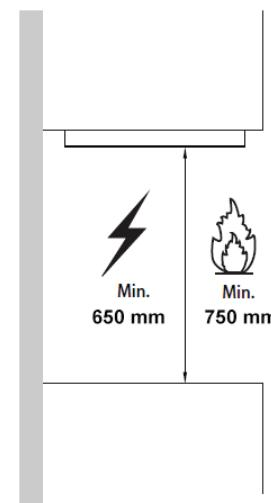

Fig. 3
2. Mark the required installation height (500 mm for electric and 500 mm for gas cooking plates) on the wall behind the cooker or the cooking plate (Fig. 3).